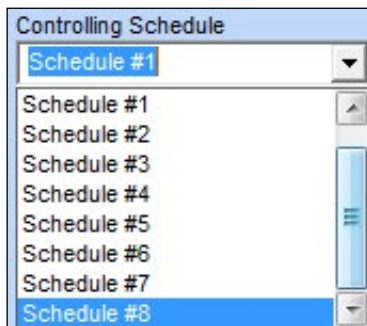

Figure 43: Controlling Schedule
- Follow Schedule** – If this option is selected, you must then go to the **Controlling Schedule** field (**Figure 43, page 25**)—and select the desired Schedule. This relay will be energized whenever the selected Schedule is in the Occupied Mode. See the Setting Schedule Section on **page 35** on how to set up Schedules. (*This option is not available with Logical AND/OR operations. See page 26.*)
You can select one of the Internal Schedules to set the occupied or unoccupied mode of operation for this selected relay. If the relay does not require a schedule to be part of its control strategy, leave the selection as “None Selected.” This will cause the controller to assume it is always “occupied” and therefore always available for operation. See Figure 43 below.